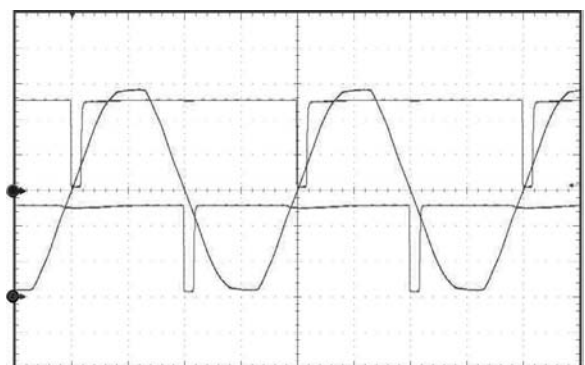
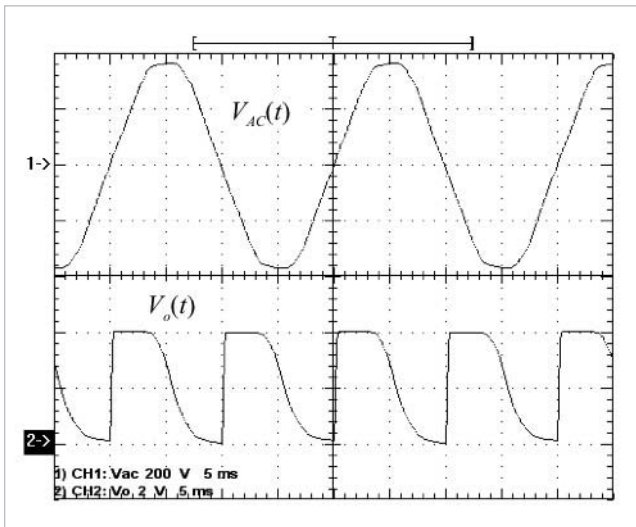

Figure 3 Measured output signals ISO₁ and ISO₂ and the mains voltage verify the circuit operation.
Figure 4 Empirical results are shown for $V_{AC}=115V_{RMS}$, $C=1$ nF, and $R_1=220$ k Ω .
The measurements obtained from the constructed circuit show good correlation with the simulation results. Figure 3 shows output signals; Figure 4 shows the timing detail of the zero crossing and corresponding output pulse for three different values of C₁. EDN
Figure 4 C₁ determines the position of the pulse leading edge in this detail from the center portion of Figure 3. The horizontal scale is 200 μ sec/div. Pulses are vertically shifted for better visibility: C₁=0 (upper), 12 nF (middle), and 22 nF (lower).
- For $V_{AC}=115V_{RMS} \pm 20\%$ (**Figure 4**): $C=1$ nF/200V, $R_1=220$ k Ω /0.25W, $t_{DELAY}=130$ μ sec (time delay in the rising